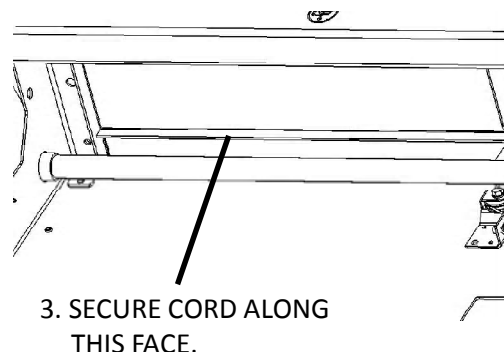

FIG. 6
3. Run the Receptacle Cord across the inside top of the cabinet base, securing with (2) 5NT3707224 Cable Tie Mounts and (2) 5NT3707225 Cable Ties. See FIG. 6. Make sure the cord will not interfere with the movable rear roller clamp.
5. Remove the .875 Hole Plug from inside of the canopy as shown in FIG. 6 and install Strain Relief 5NT3707009. Put the Receptacle Cord through the strain relief and tighten. See step 7 on the following page for wire connections.